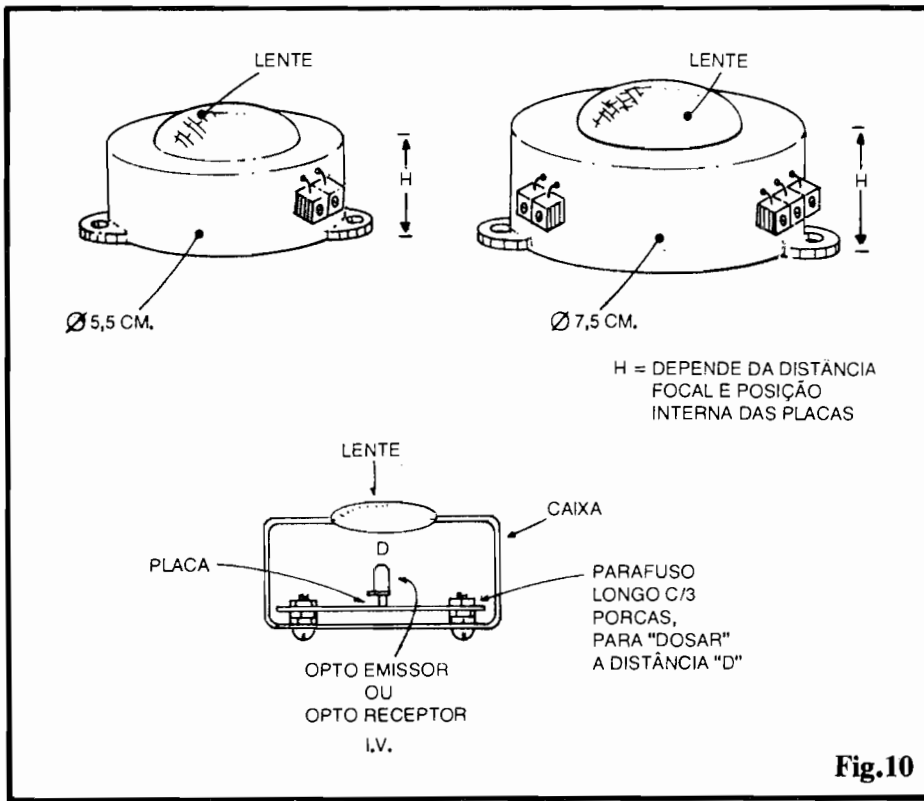

Fig.10
- FIG. 10 - ACOMODANDO OS CONJUNTOS NAS CAIXAS...